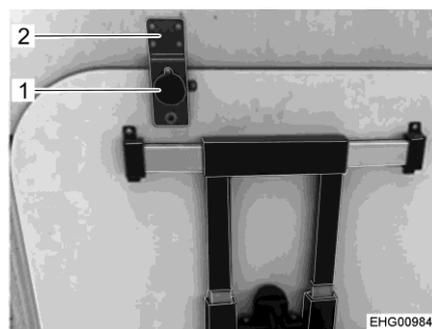

Fig. 39 Table top (in the holder)
- Slide the table top into the holder (Fig. 39,2) behind the driver's seat until the catch button (Fig. 39,1) engages.
- Pull the catch button (Fig. 39,1). The lock is released.
- Pull the table out of the holder (Fig. 39,2).